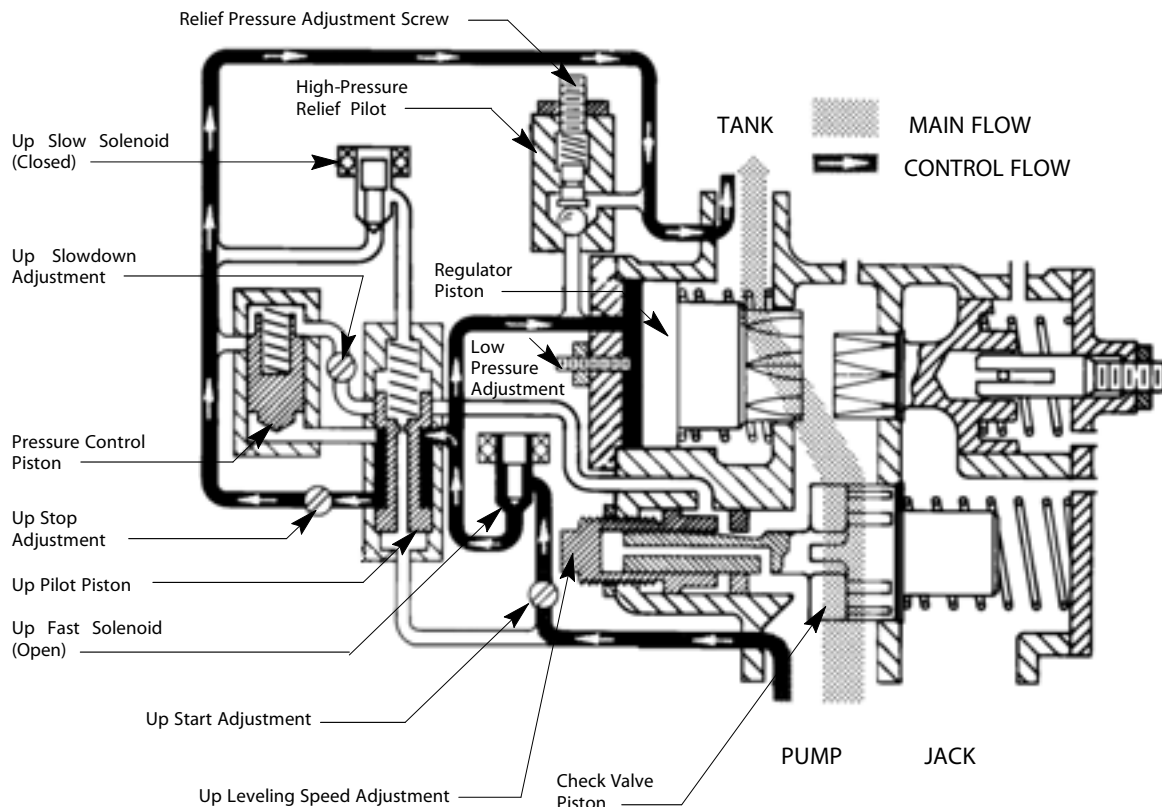
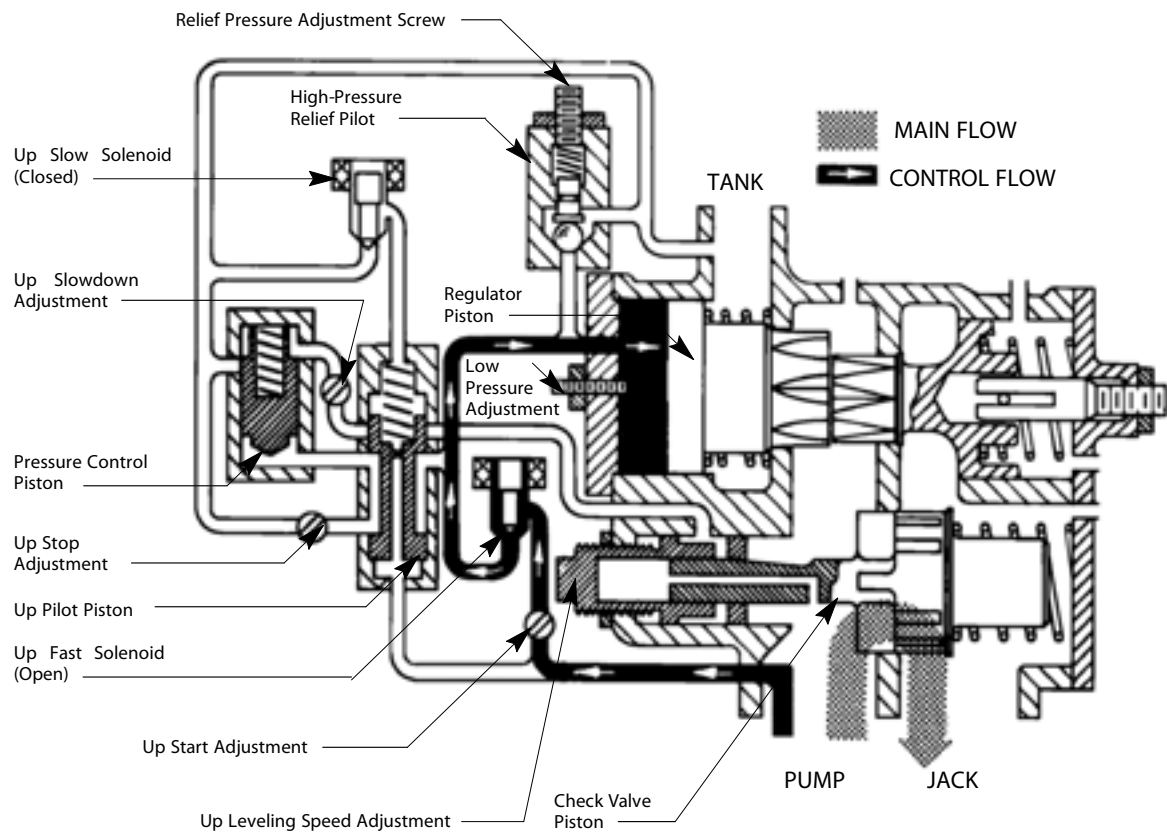

Figure 6 - Up Start Diagram
Figure 7 - Full Speed Diagram
1. To start the car, the pump starts and the up fast solenoid energizes. See Figure 6 on page 52 and Figure 7 on page 53.